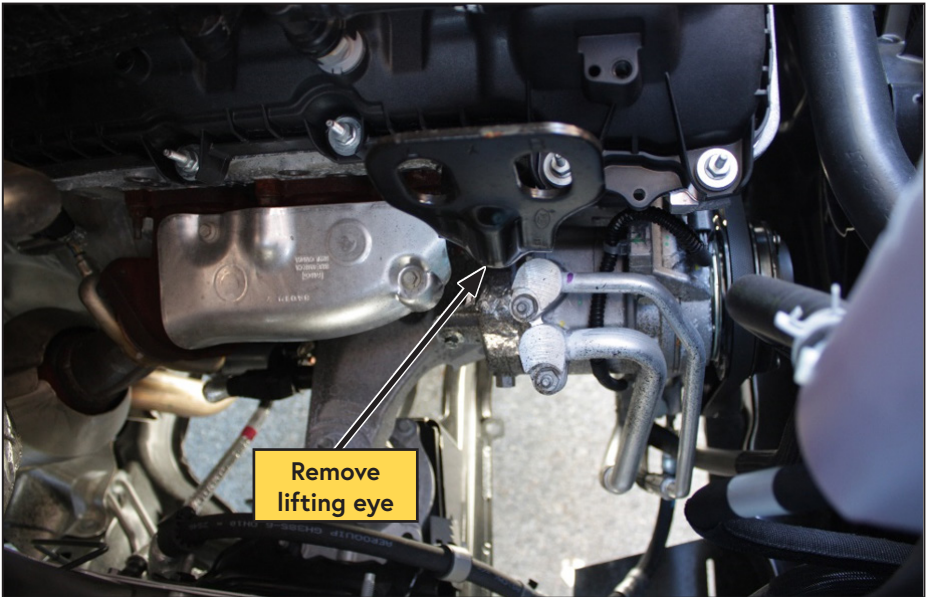

Figure 11 — Remove engine lifting eye and turbo outlet
- Remove the engine lifting eye and retain the fasteners (Figure 11).